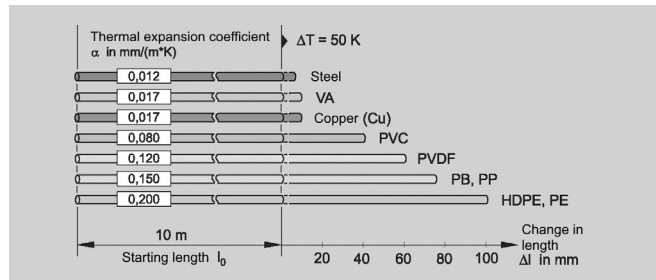

Figure 1.1: Material coefficient of linear expansion
Pipes for heating, air conditioning and process technology in particular are often subject to considerable temperature fluctuations and consequently show significant changes in length. The pipes shrink when they cool down and expand when they heat up. Depending on the material, pipelines expand very differently at the same temperature difference; polyethylene (PE), for example, expands 17 times more than structural steel. Therefore, the given coefficient of linear expansion must be taken into account during the planning phase due to the choice of material (Figure 1.1).